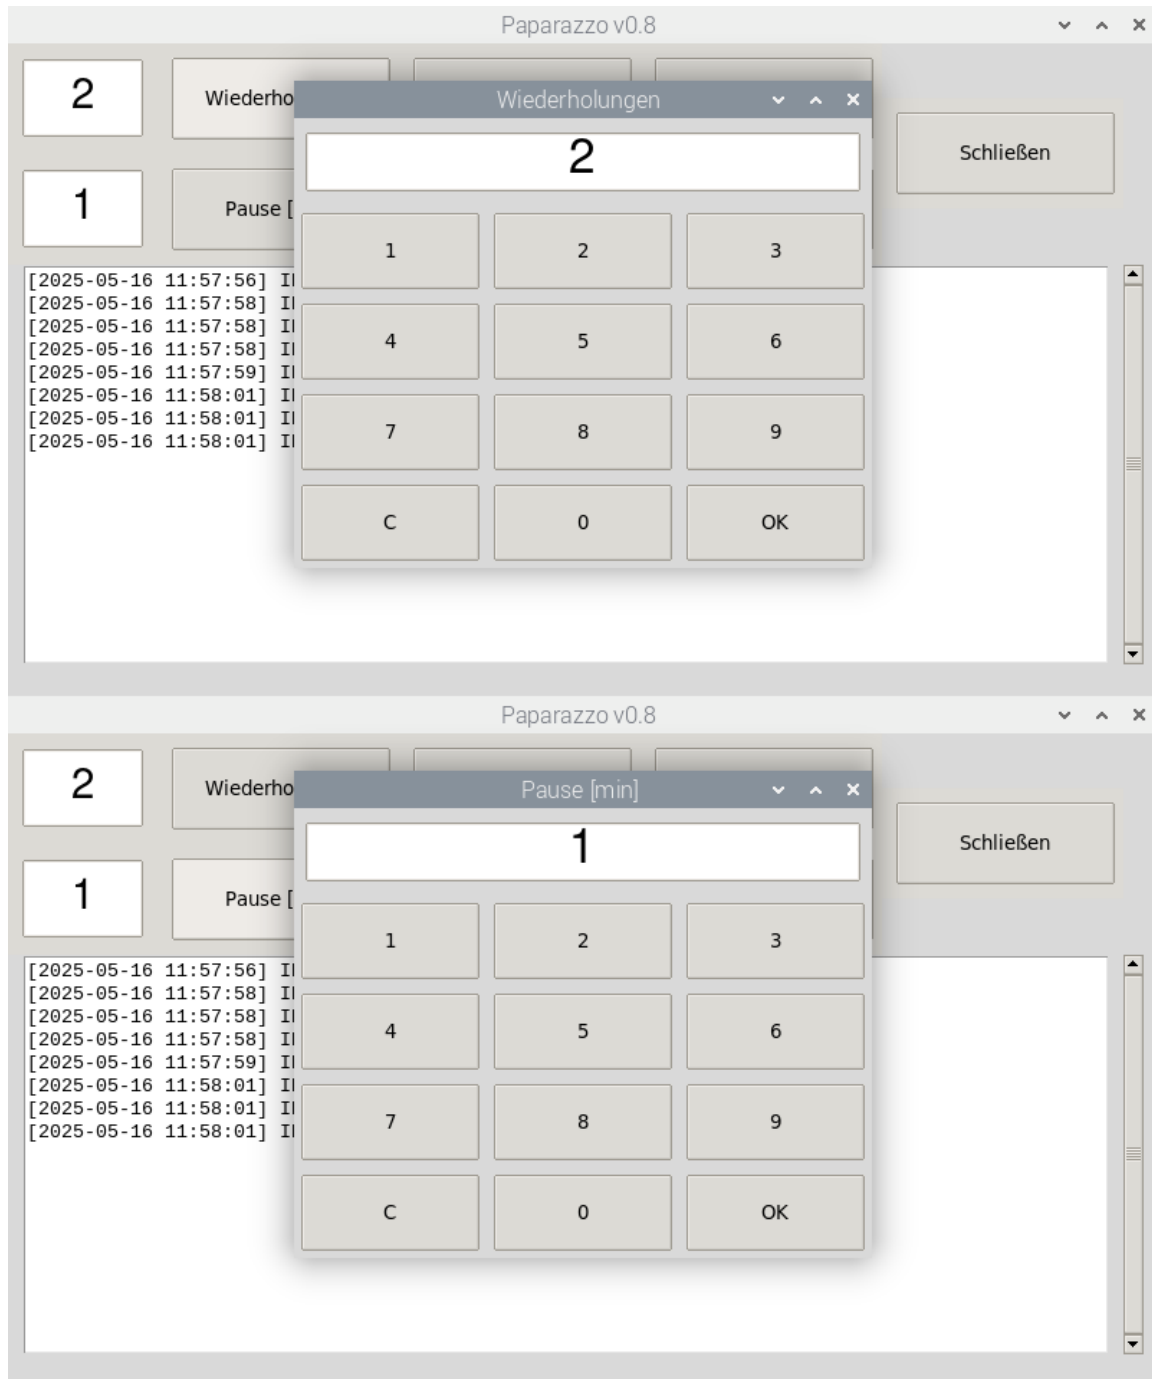

Figure 2: Configuration of the Paparazzo run.
2. Enter run settings by hitting the according buttons for cycles (**Wiederholungen**) and delay (**Pause [min]**) between cycles, see Figure 2.